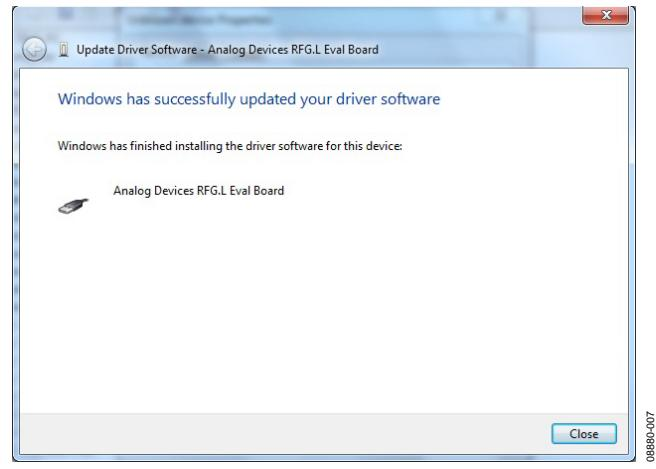

Figure 7. Successful Install
- If the install was successful, the message box in Figure 7 appears.